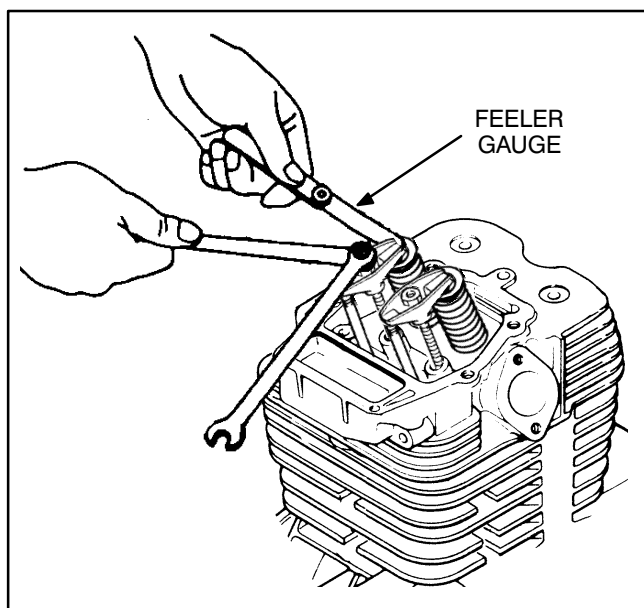

FIGURE 10-11. VALVE CLEARANCE ADJUSTMENT
3. Clearances are shown in Section 3. *Dimensions and Clearances*. For each valve, the gauge should just pass between the top of the valve stem and the rocker arm. (See Figure 10-11.)